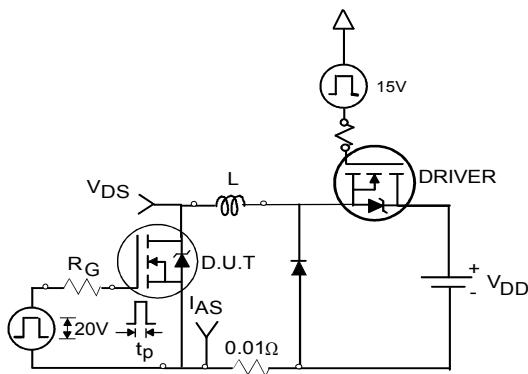

Fig 12a. Unclamped Inductive Test Circuit
- ③ $I_{SD} \leq 104\text{A}$, $dI/dt \leq 240\text{A}/\mu\text{s}$, $V_{DD} \leq V_{(\text{BR})\text{DSS}}$, $T_J \leq 175^\circ\text{C}$.
- ④ Pulse width $\leq 400\mu\text{s}$; duty cycle $\leq 2\%$.
- ⑤ $C_{oss\ eff.}$ is a fixed capacitance that gives the same charging time as C_{oss} while V_{DS} is rising from 0 to 80% V_{DSS} .
- ⑥ Calculated continuous current based on maximum allowable junction temperature. Bond wire current limit is 75A. Note that current limitations arising from heating of the device leads may occur with some lead mounting arrangements. (Refer to AN-1140)
- ⑦ Limited by $T_{J\max}$, see Fig.12a, 12b, 15, 16 for typical repetitive avalanche performance.
- ⑧ This value determined from sample failure population, starting $T_J = 25^\circ\text{C}$, $L = 0.08\text{mH}$, $R_G = 25\Omega$, $I_{AS} = 104\text{A}$, $V_{GS} = 10\text{V}$.
- ⑨ When mounted on 1" square PCB (FR-4 or G-10 Material). For recommended footprint and soldering techniques refer to application note #AN-994
3. Equation below based on circuit and waveforms shown in Figures 12a, 12b.